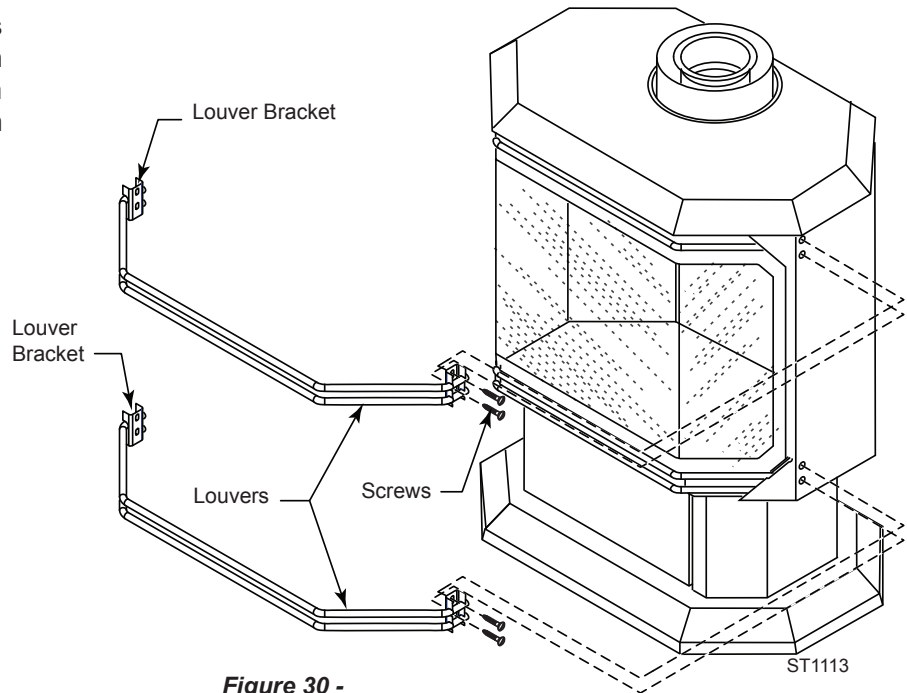

Figure 30 - Installing Louvers
Attach the top louver unit (two louvers and two louver brackets) to stove with four (4) screws provided — two (2) on each side. *Figure 30.* Repeat for bottom louver unit.